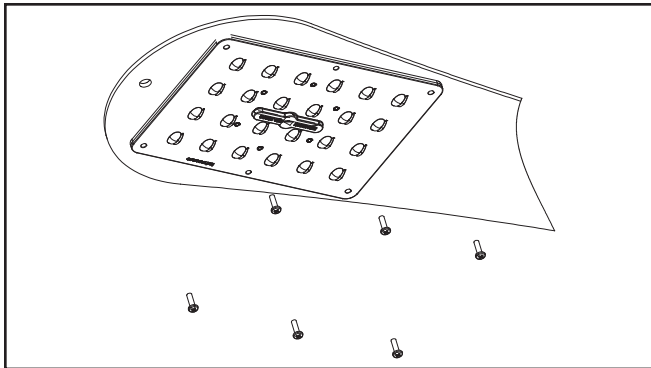

Figure 1.
1. Remove the six screws for each optic panel. (Figure 1)